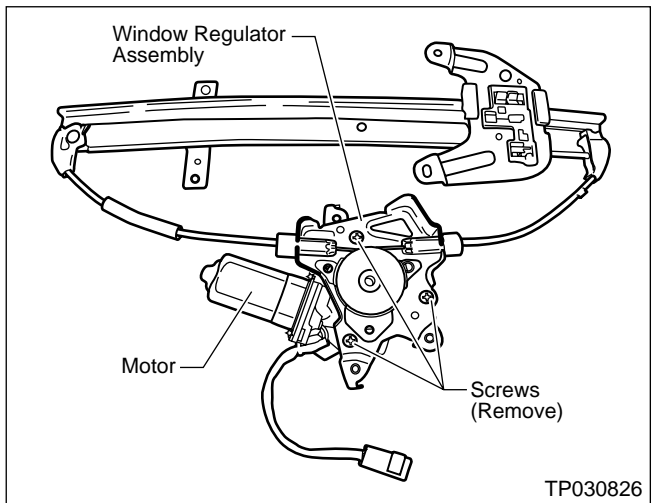

Figure 49
14. Take out three screws and remove the Motor from the Window Regulator Assembly (see Figure 49).